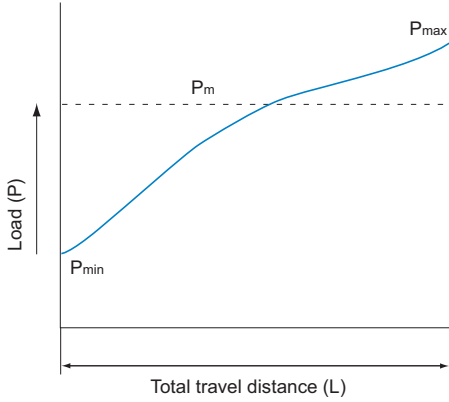

Fig.3
As this load is monotonically varying as shown in the Fig.3 on **B3-23**, calculate the average load using the equation (13) on **B3-23**.